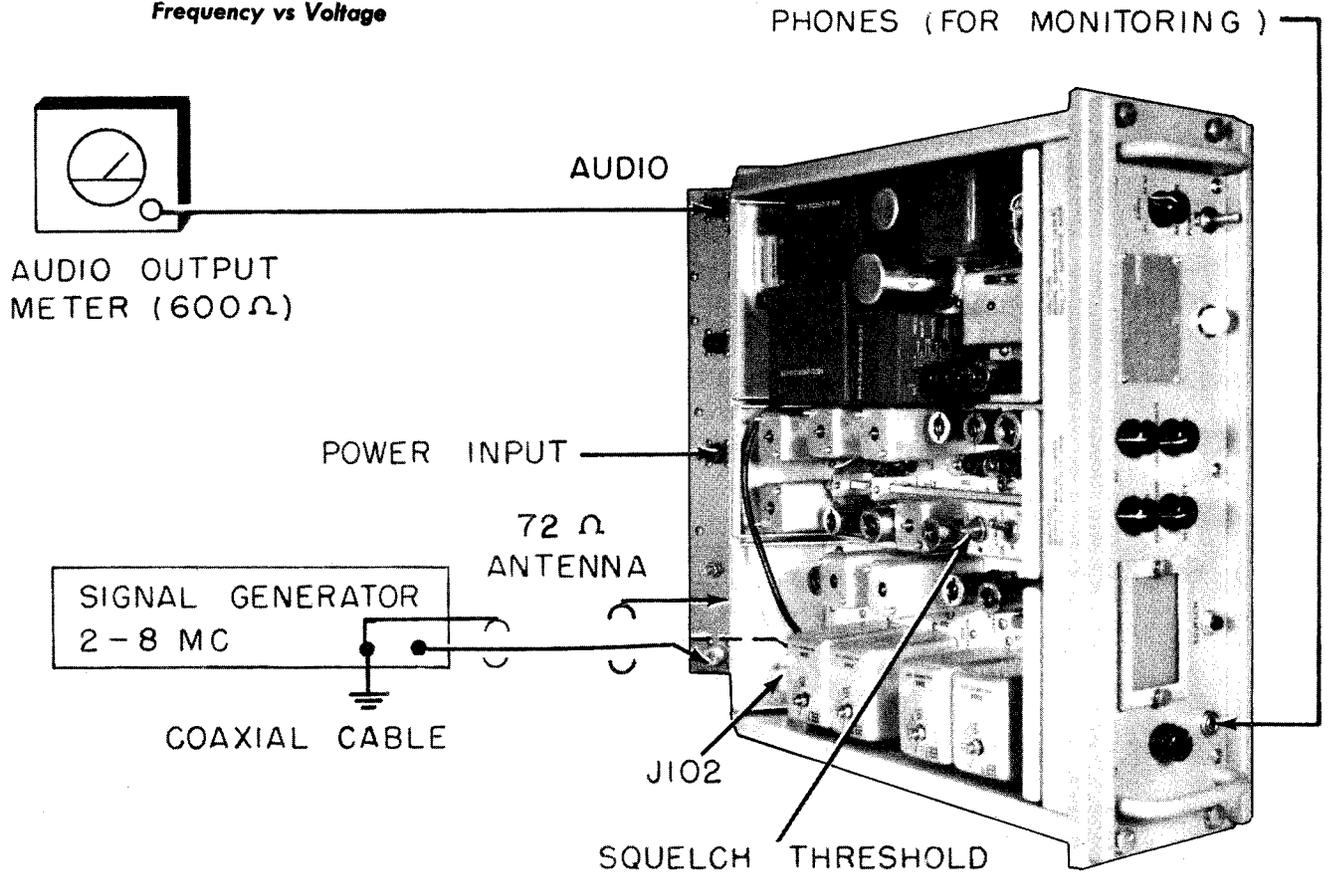

Figure 7-6. Set-up for RF Amplifier Alignment and Squelch Threshold Adjustment
(4) Align RF stages. (See Fig. 7-6, Table 7-5.)
(1) Leave all receiver controls as previously adjusted, during the IF amplifier alignment. Make certain the RF band switch is on the proper band, i.e. I, II or III.
(2) Each time the channel frequency is changed, the RF stages must be re-aligned, as outlined.
(3) Connect the receiver, high frequency signal generator, and audio output meter as indicated in figure 7-6 and proceed with the alignment as outlined in table 7-5.
(4) The 2-8 Mc signal generator output should be 30% modulated at 400 cycles, and can be connected directly to the RF chassis receptacle (J102) or to
l. SQUELCH THRESHOLD ADJUSTMENT. The SQUELCH control (R217), located on the IF chassis assembly, is operative only when the RECEPTION switch (S301) is in the A2-A3 position. The receiver may be adjusted to any point of squelch opening desired, from a completely unsquelched condition to a point where a signal of over 100 microvolts is required to open the squelch. In SECTION 3, para. 4. a. (14), a method of setting this control for the most sensitive point is described. Should circumstances require that the squelch open at some definite signal strength, a signal generator with its output accurately calibrated in microvolts is required, and the following procedure should be followed. ((See Fig. 7-6.)